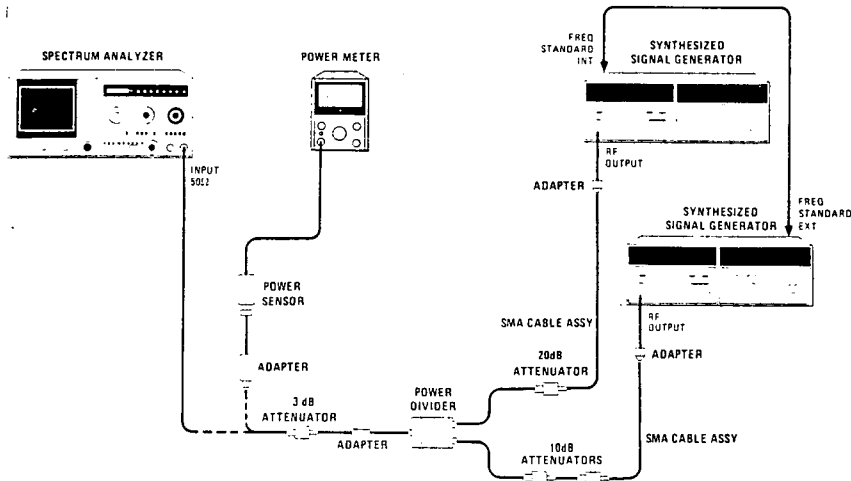

Figure 4-26. Intermodulation Distortion Test Setup
7. Connect equipment as shown in Figure 4-26 with output of the 3 dB attenuator connected to spectrum analyzer INPUT 50 Ohm.
15. Connect the output of the 3 dB attenuator to the power sensor as shown in Figure 4-26.
18. Connect the output of the 3 dB attenuator to the analyzer input as shown in Figure 4-26.